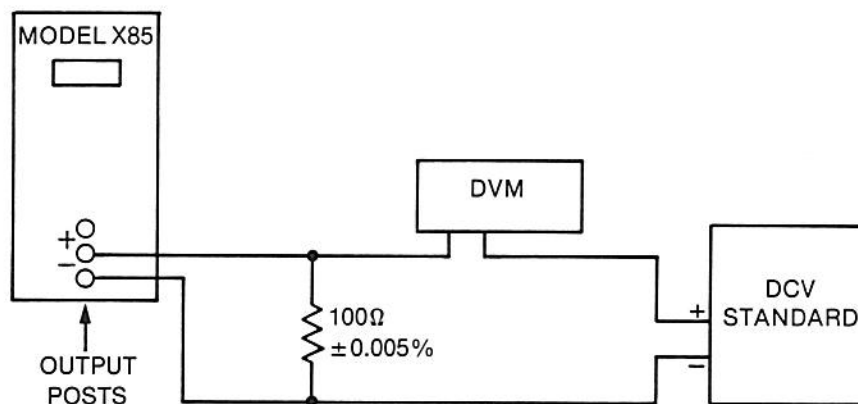

FIGURE 5.5
5.3.6.1 Connect the Model X85, DVM, DC voltage standard and the precision 100 OHM resistor as shown in Figure 5-5.